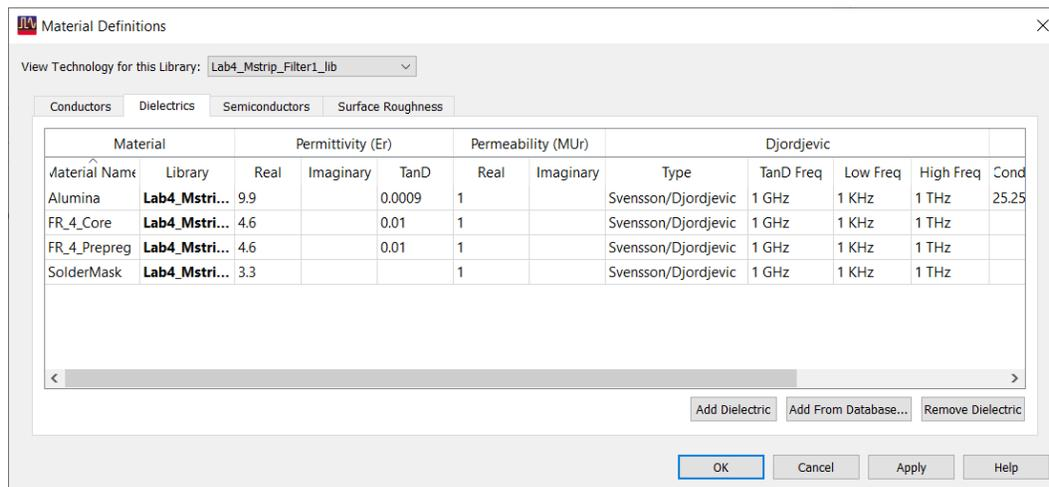

Figure 14. Edit Dielectric Properties
- In the Dielectrics tab, modify Alumina to have $\epsilon_r = 9.9$ and $\tan \delta = 0.0009$, as shown in Figure 14. These are the same parameters that were used in the schematic design.